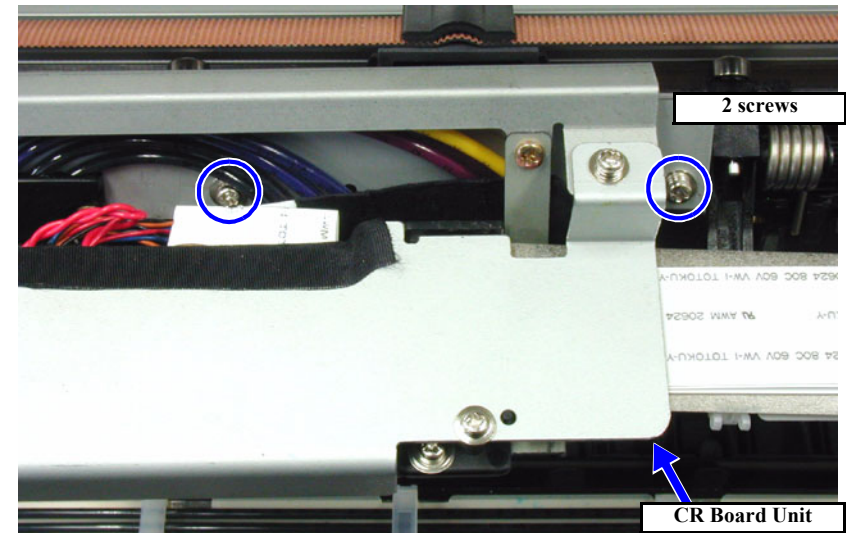

Figure 5-69. Adjusting the CR Encoder Sensor Mounting Position 1/2
2. Remove the two screws securing the CR Board Unit in the Carriage Unit, and take out the CR Board Unit toward the front. (See *Figure 5-69*)